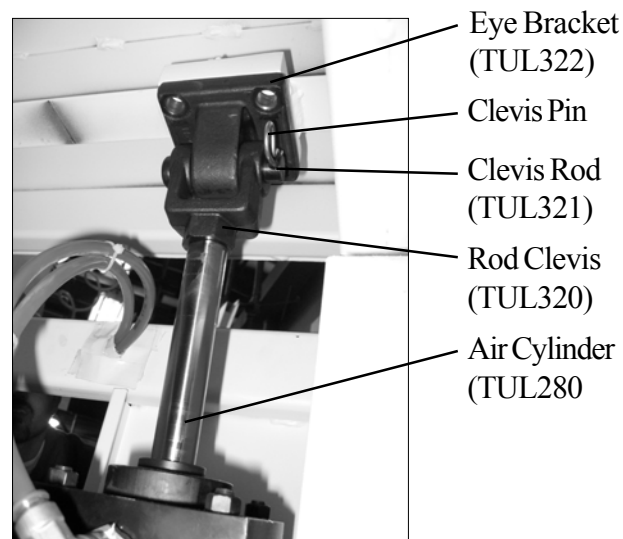

Figure-2B
STEP 6: Disconnect hoses from cylinder at quick connection, **Caution: Make sure the hoses are connected back in the same order. If the hoses are reversed, than the dryer will not tilt properly.** Put clevis rod through eye bracket and cylinder rod. Put pin through clevis rod to prevent pin from working loose. Pull cylinder rod out until it touches the bottom of top section. (See Figure-2B). Use 1/2" bolts, lock washers, and cut washers to mount eye bracket to bottom section (See Figure-2C). Repeat this step on other side.